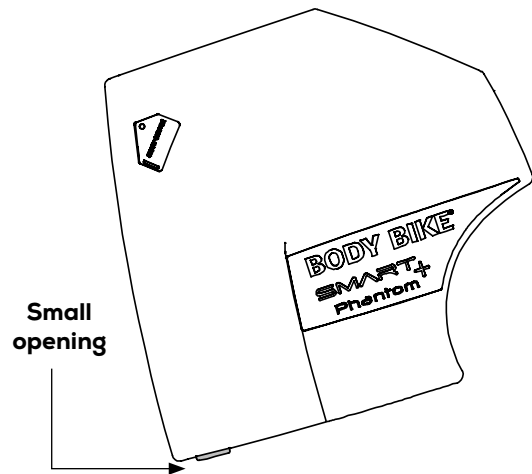

Figure 19
1) Open the service hatch as shown in figure 19.
Most maintenance and actions can be done through the service hatch. Pull out the service hatch in the small opening as shown in figure 19.
- 6) Remove the service hatch. See figure 19.
The generator wheel has a red silicone ring that runs against the flywheel. Due to normal wear, the silicone ring will eventually need replacement. This can be done by removing the right service hatch (see Figure 19).
1) Remove the service hatch on both sides of the bike. See figure 19.